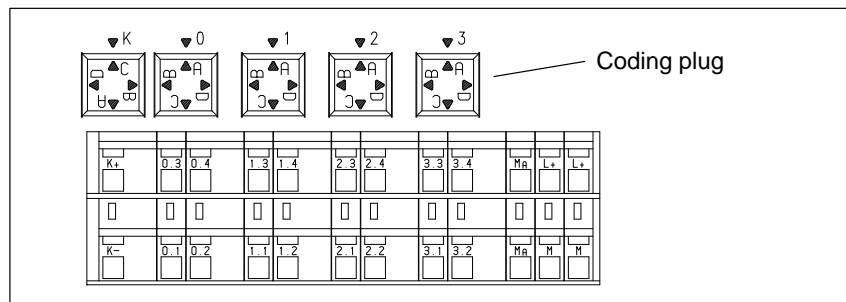

Figure 8-2 Terminal Numbering: Terminal Block TB8 (Spring-Latch Terminals)
**Terminal Numbering** Figure 8-2 is an enlargement of the terminal numbering printed on the TB8 (spring-latch terminals).